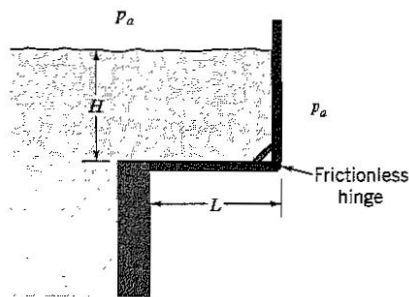

Figure P2.86
2.86 The two-dimensional gate shown in Figure P2.86 is arranged so that it is on the point of opening when the water level reaches a depth H . If the gate is made of a uniform material that has a weight per unit area of mg , find an expression for H .